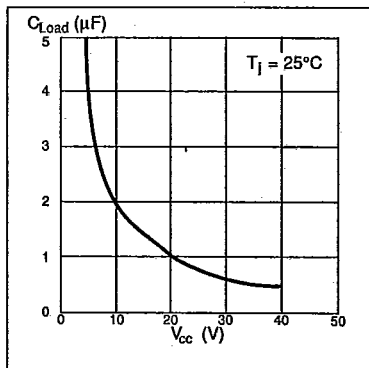

Figure 11. Maximum load capacitance vs. supply voltage.
3. Figure 11 shows the max. load capacitance vs. supply voltage. Generally a slow capacitive load (high ESR) will accept higher supply voltages than a fast capacitive load without going into short-circuit protection.